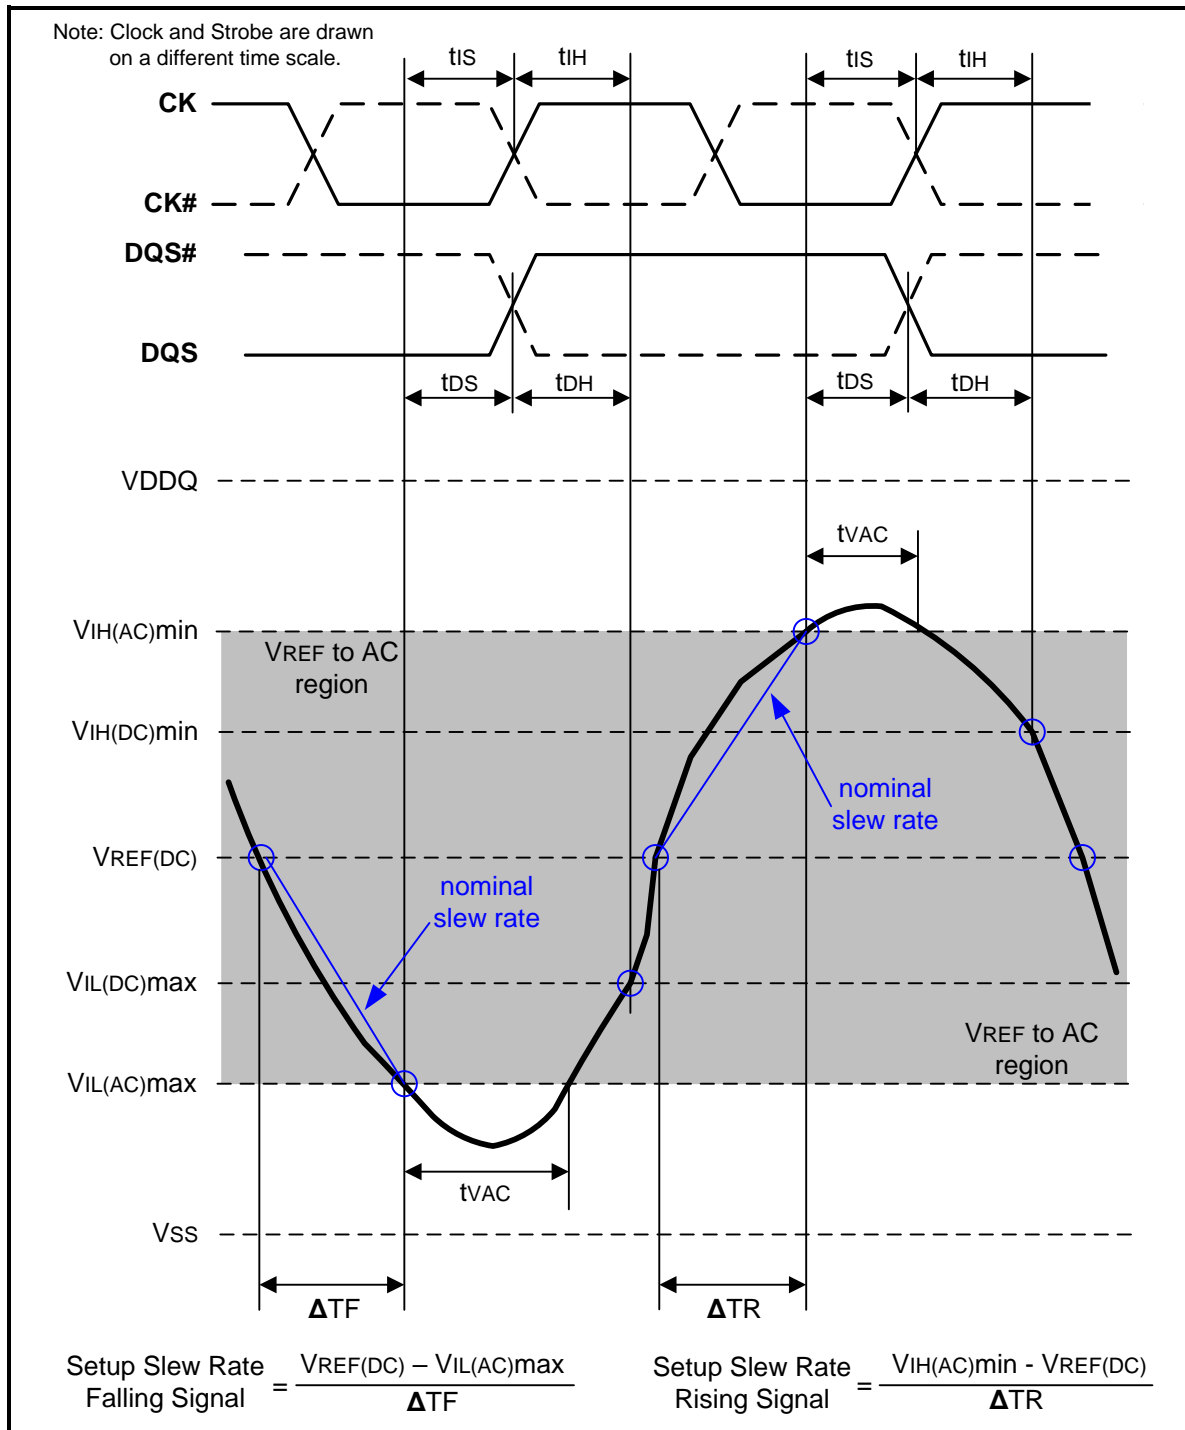
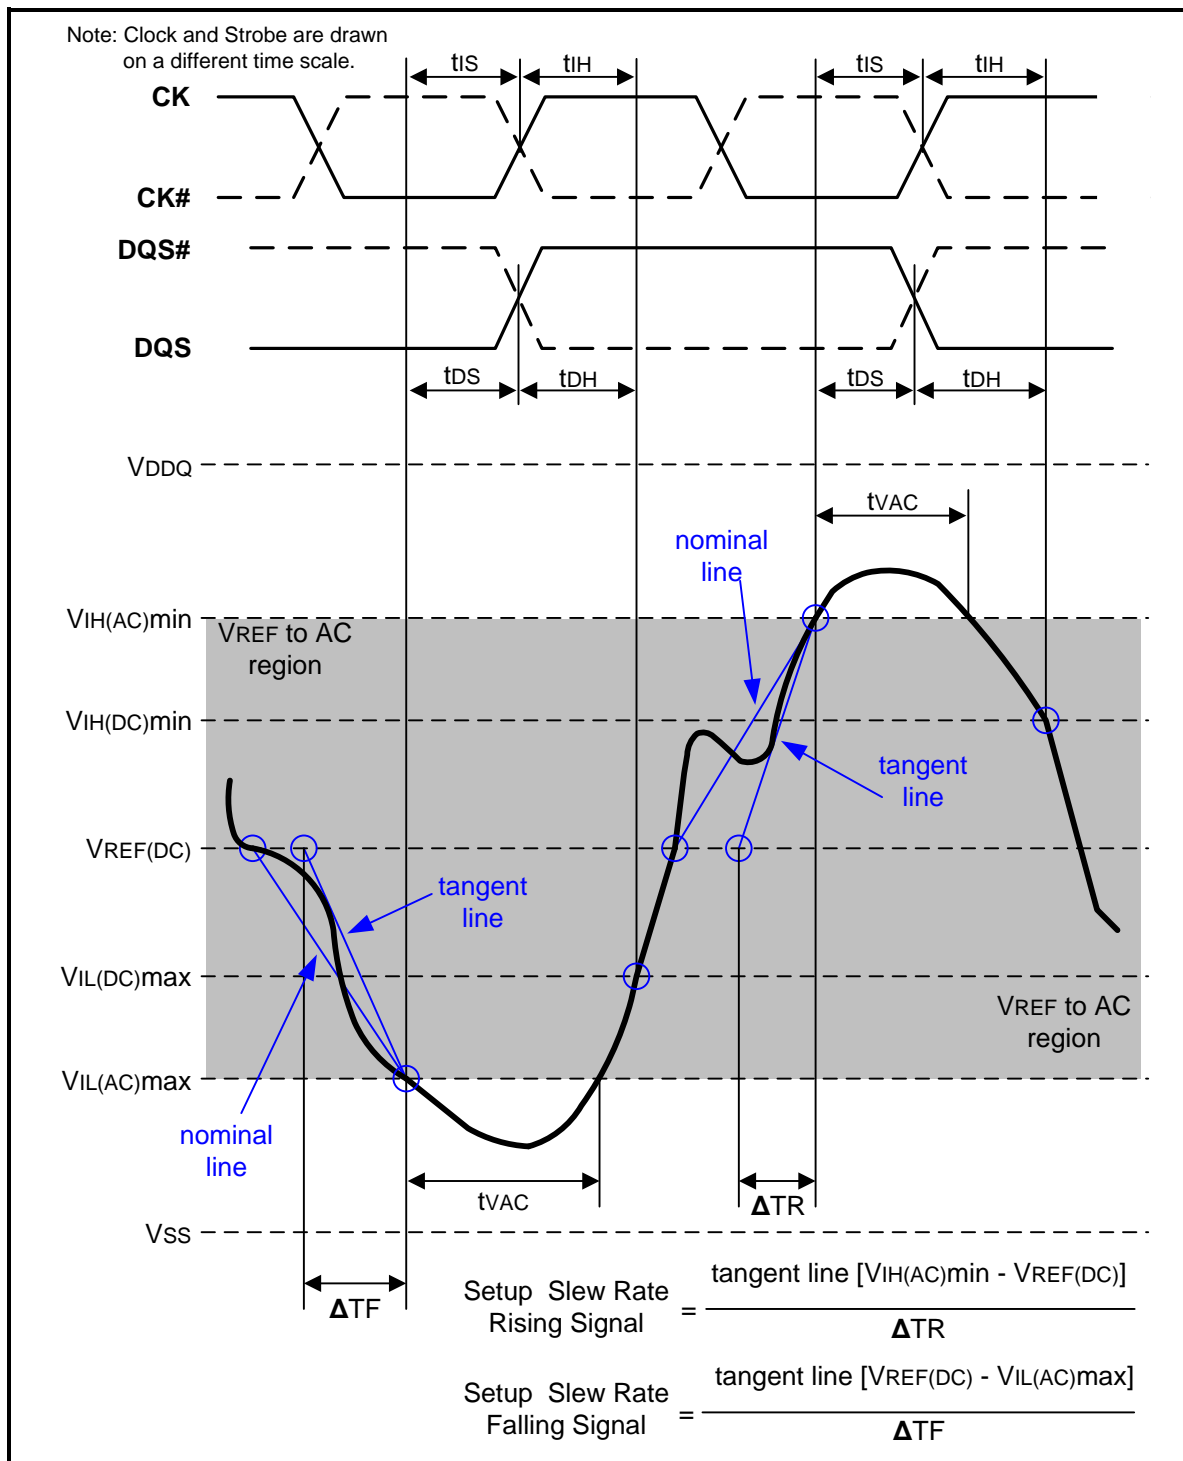

Figure 107 – Illustration of nominal slew rate and tvac for setup time tDS (for DQ with respect to strobe) and tIS (for ADD/CMD with respect to clock)
Figure 109 – Illustration of tangent line for setup time t_{DS} (for DQ with respect to strobe) and t_{IS} (for ADD/CMD with respect to clock)
Setup (tDS) nominal slew rate for a rising signal is defined as the slew rate between the last crossing of VREF(DC) and the first crossing of VIH(AC)min. Setup (tDS) nominal slew rate for a falling signal is defined as the slew rate between the last crossing of VREF(DC) and the first crossing of VIL(AC)max (see Figure 107). If the actual signal is always earlier than the nominal slew rate line between shaded 'VREF(DC) to AC region', use nominal slew rate for derating value. If the actual signal is later than the nominal slew rate line anywhere between shaded 'VREF(DC) to AC region', the slew rate of a tangent line to the actual signal from the AC level to VREF(DC) level is used for derating value (see Figure 109).